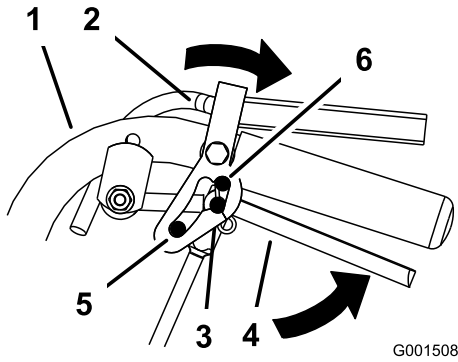

Figure 10
- Place thumbs on the upper part of the locks and move them back until the pins are in the neutral position (Figure 10).